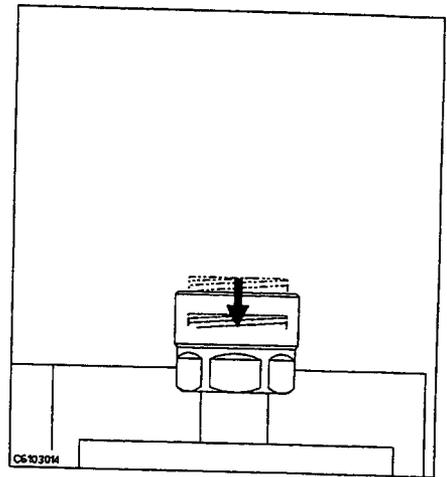

Figure 5-14.
2. Verify that the connector sleeve is retracted fully as shown in Figure 5-14.